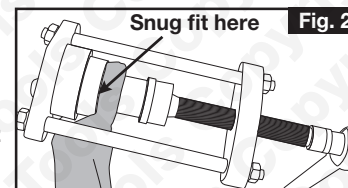

Fig. 2
7. Assemble the kit as shown in **Fig. 2**